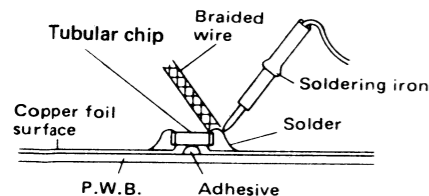

Figure 21-1
- Using a soldering iron, heat the solder at each terminal of the chip to get it absorbed into a braided wire applied thereon. See Fig. 21-1.